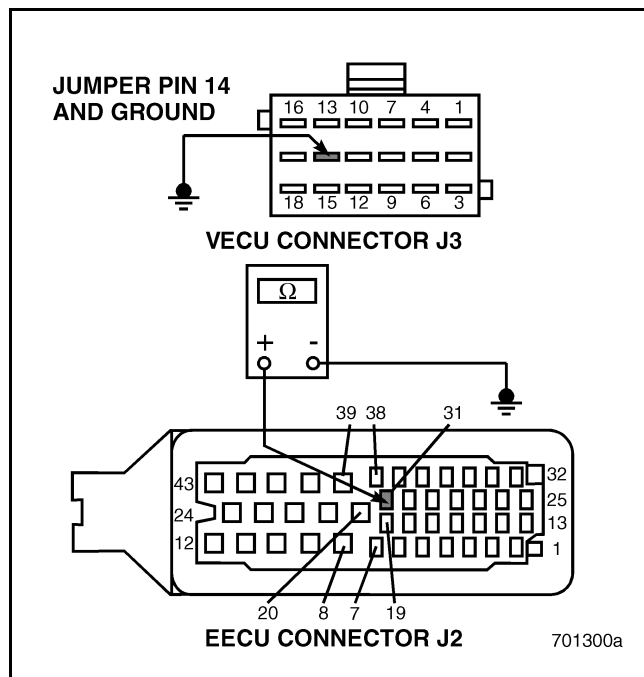

Figure 629
5. Check for continuity between Engine Electronic Control Unit (EECU) connector J2 pin 31 and a good ground (see Figure 629). If continuity exists, serial data line B is open between VECU connector J3 pin 15 and EECU connector J2 pin 38. Locate and repair the open circuit.